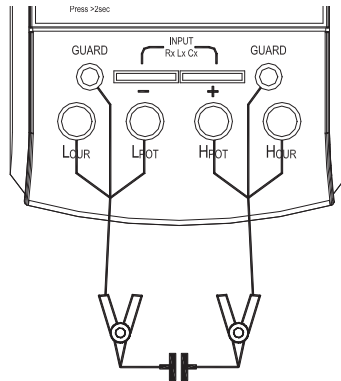

Figure 11
- b. Insert the black and red testing lines with alligator clip into the " L_{CUR} " , " L_{POT} " terminal and " H_{CUR} " , " H_{POT} " terminal respectively. Connect the alligator clips to the two ends of capacitance corresponding to its polarity(shown in figure 11).